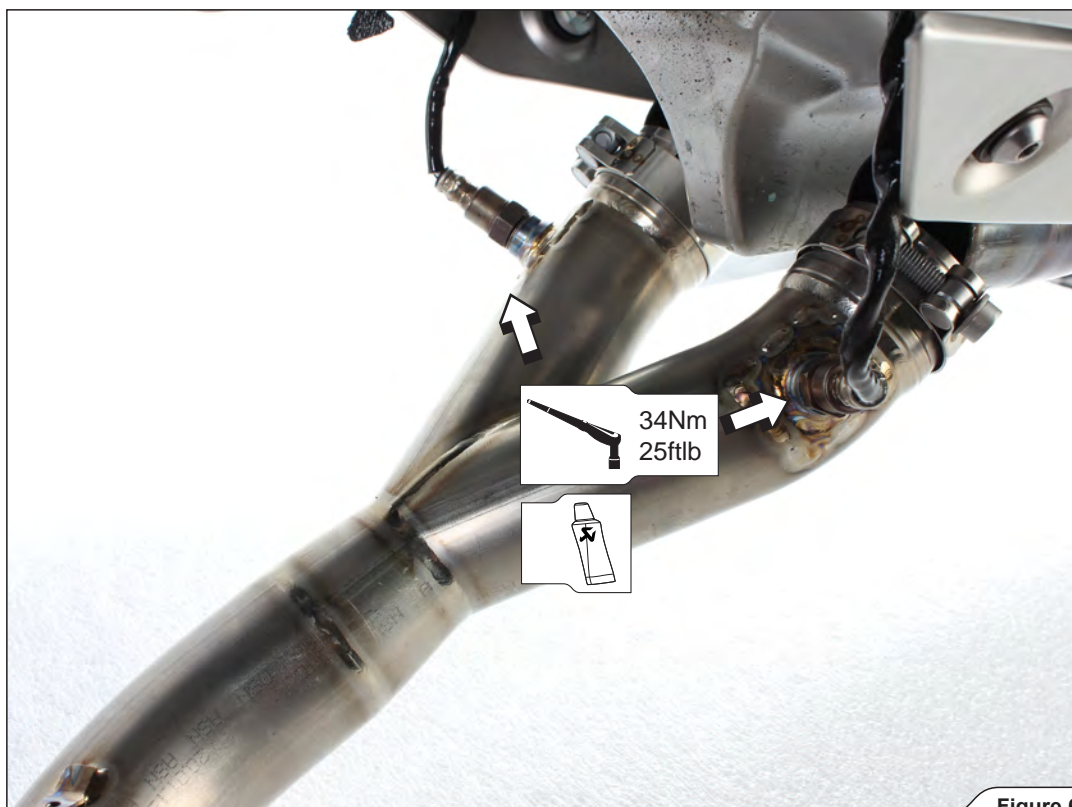

Figure 6
2. Tighten both lambda sensors into the link pipe (Figure 6).